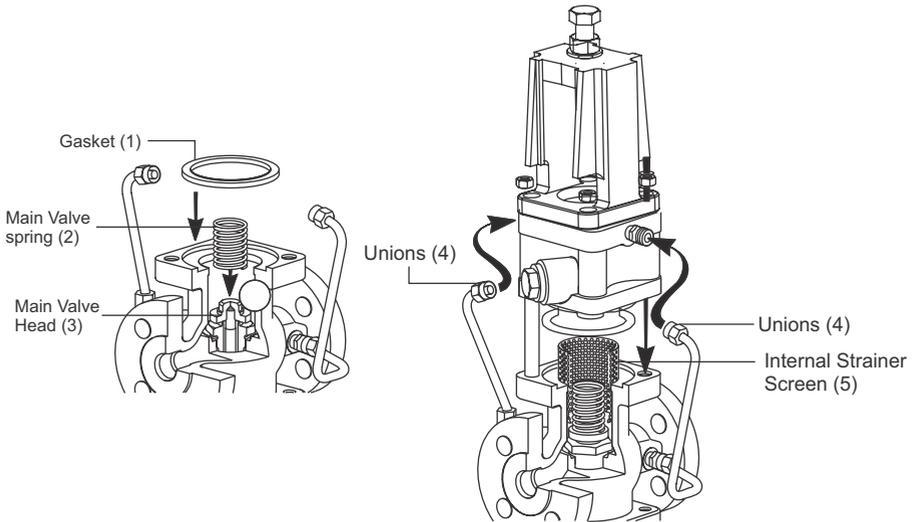

Figure 22: Reassembling
7.11. Procedure to reassemble the valve: (Refer to Figure 22)